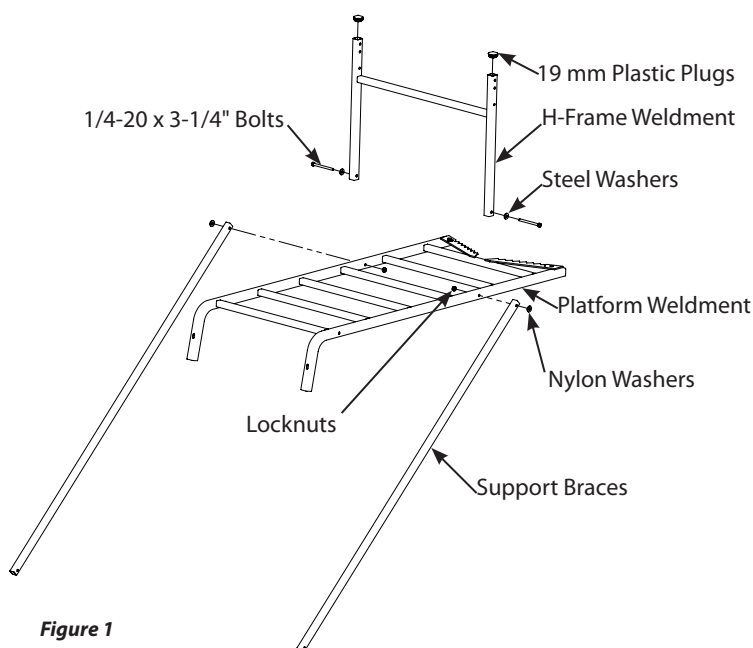

Figure 1
1. Attach the support braces (14113) and attach H-frame weldment (14001) to the platform weldment (13997) using (2) provided 1/4-20 x 3-1/4" bolts, locknuts, steel washers and nylon washers. Press the 19 MM square plastic plugs (48883) into the top of the H-frame weldment. **SEE FIGURE 1. DO NOT tighten all nut and bolt assemblies completely!**